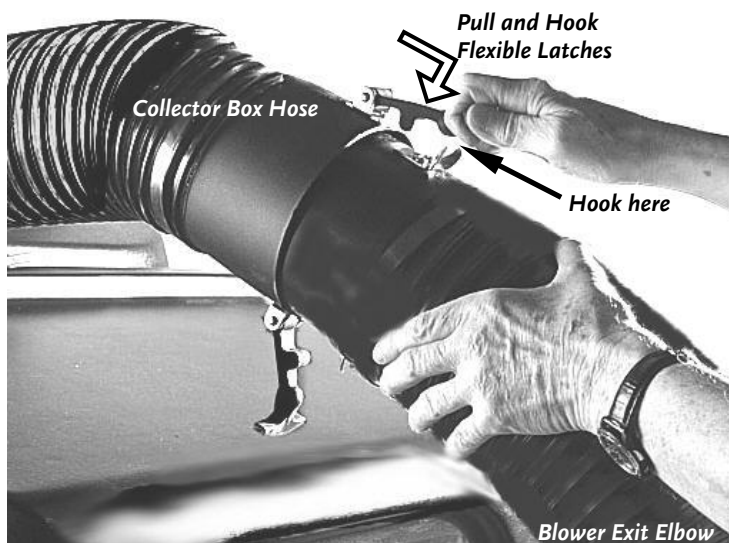

Figure 11
1. Connect the Hose from the Collector Box to the Blower Exit Elbow Assembly by aligning the two (2) Flexible Latches (**Figure 11**) and slipping the Hoses together.
2. Pull and hook the two (2) Flexible Latches into place (**Figure 11**) to secure the Hoses.